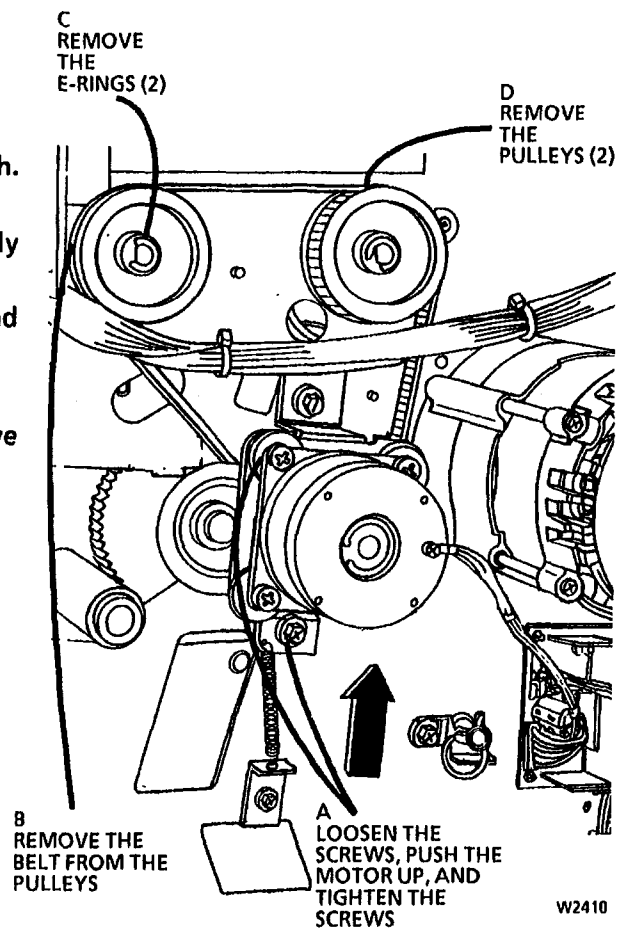

Figure 1. Removing the Drive Pulleys
5. (Figure 1): Remove the Drive Pulleys.